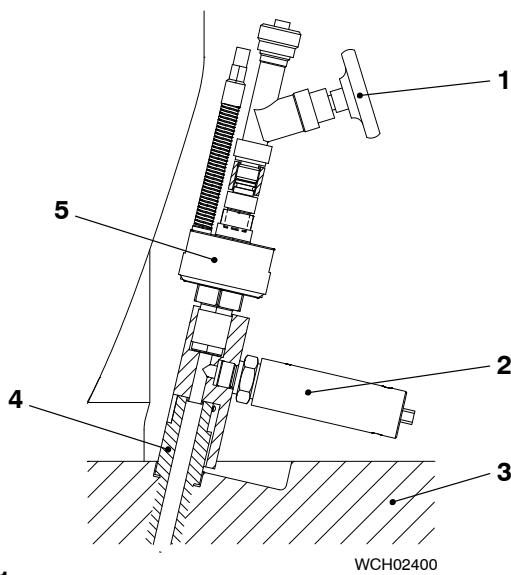

Fig. 1
Some cylinder covers have an indicator valve installed together with a relief valve. Other cylinder covers have only an indicator valve. This procedure is only applicable for the cylinder covers that have an indicator valve together with a relief valve (see Fig. 1).
- 1) Open the indicator valve (1, Fig. 1) to make sure that there is no pressure in the compression chamber.
- 2) Remove the relief valve (2) from the adapter (4).
- 7) Make sure that the relief valve (2, Fig. 1) is set to blow-off at 235 bar. This relates to a firing pressure of between 166 bar to 169 bar.